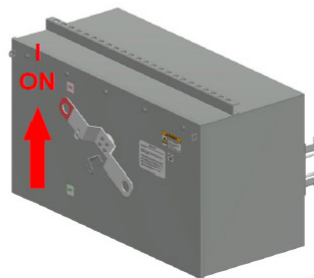

Figure 44. Turn-on
- Turn-on position. (Figure 44)